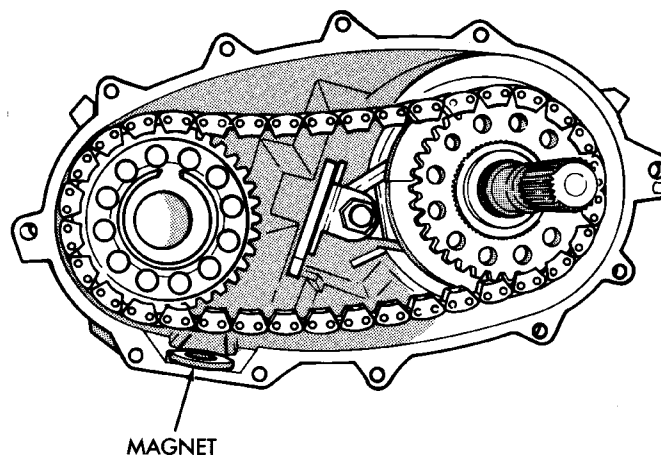

Fig. 68 Installing Case Magnet
(9) Install magnet in front case pocket (Fig. 68).